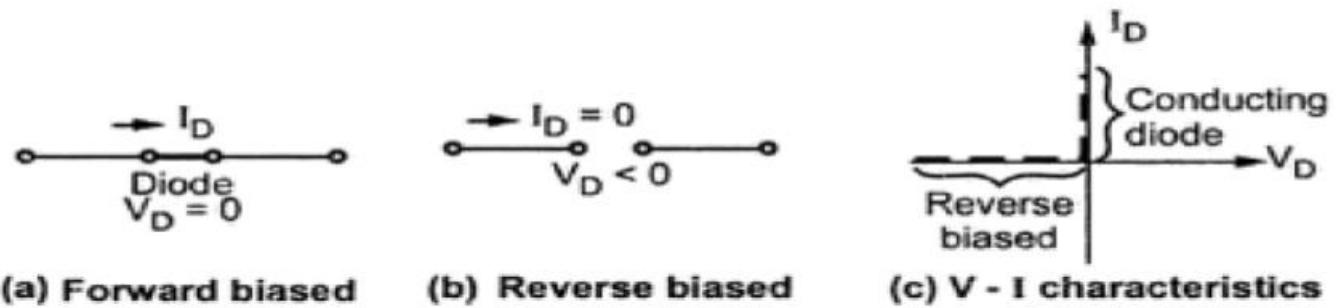

Fig. 1.12 Ideal diode model
- The Fig. 1.12 shows the ideal diode characteristics.